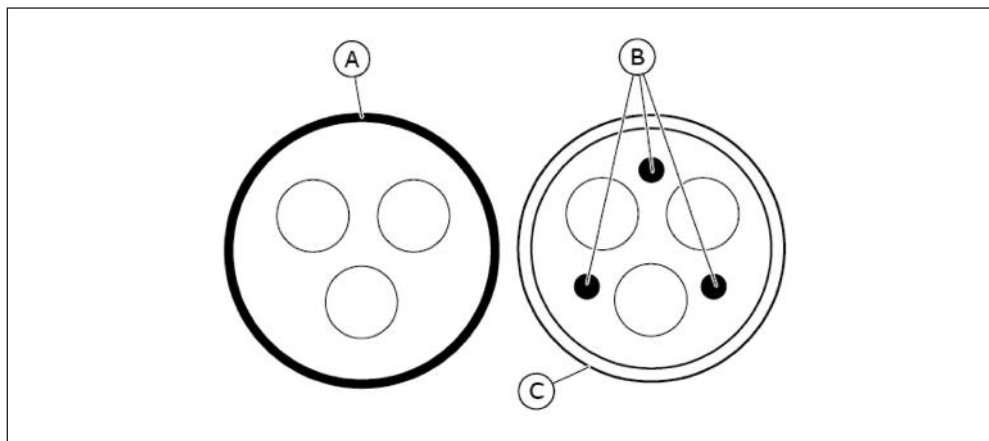

Fig. 22: Cables with PE conductors
2. A symmetrical power cable with a concentric protection wire. A cable for the specified mains voltage. We recommend an MCMK cable. See Fig. 22.
3. A symmetrical power cable with a compact low-impedance shield. A cable for the specified mains voltage. We recommend an MCCMK, or an EMCCK cable. We recommend that the cable transfer impedance (1...30MHz) is a maximum of 100 mΩ/m. See Fig. 22.